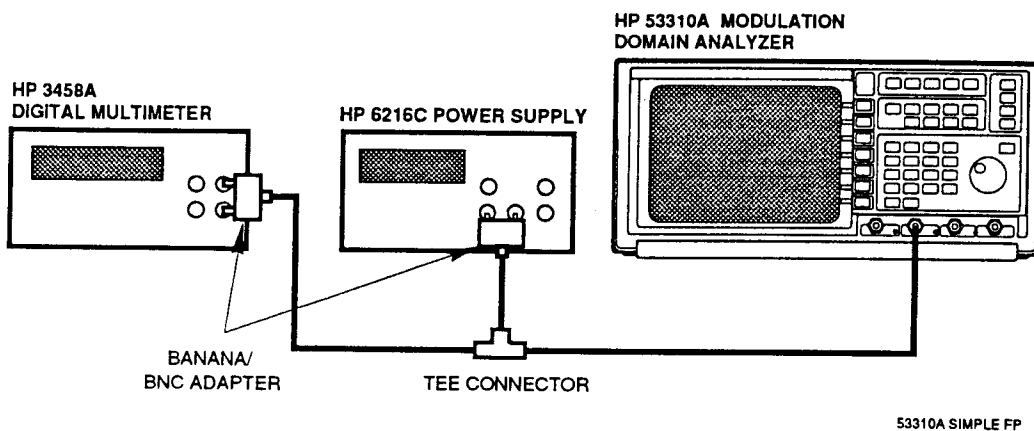

Figure 2-1. Gain Calibration Setup
- a. Connect a +5V dc source to channel A of the HP 53310A and the voltmeter (or digital multimeter) as shown in *Figure 2-1*.